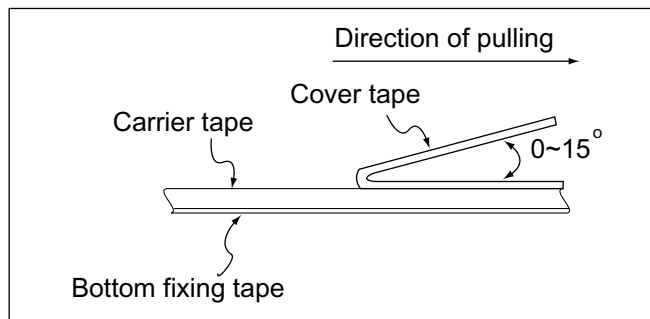

Figure 6.1.3: Peel Back Tape
0.05 < Peel back strength < 0.7N (Figure 6.1.3.)